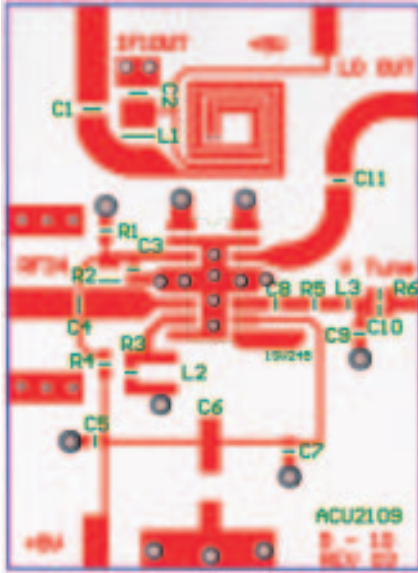

Figure 19: ACU2109 Evaluation Board Top View
(1) Case temperature is 15 °C higher than Ambient Temperature, when Ambient Temperature is ≤ +65 °C, using PC Board Layout shown in Figures 19 - 20.
(1) As measured on ANADIGICS Evaluation Board shown in Figures 19 - 20.
(2) 138 channels, 0 dB tilt, +7 dBmV flat
(3) 138 channels, -10 dB tilt, +7 dBmV at 55.25 MHz
(4) As measured in ANADIGICS test fixture, using Anaren 3 dB 180° coupler (part no. 30055) and external bias-tees.
(5) All channels 99% AM modulated at 15 kHz, including adjacents
(6) Two tones, -15 dBm (+33.75 dBmV) each
(7) At 250 kHz comparison frequency, 3 kHz loop bandwidth
(8) Case temperature is 15 °C higher than Ambient Temperature, when Ambient Temperature is ≤ +65 °C, using PC Board Layout shown in Figures 19 - 20.